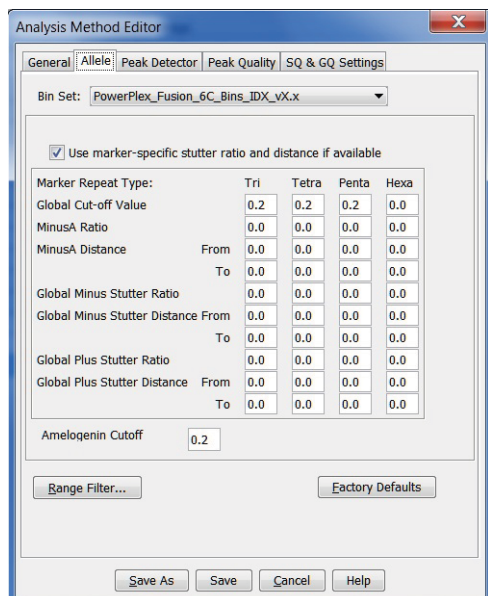

Figure 21. The GeneMapper® ID-X 'Allele' tab with settings for using a 20% peak filter.
6. Select the 'Allele' tab (Figure 21).
8. Ensure that the "Use marker-specific stutter ratio and distance if available" box is checked. Doing this will assign locus-specific stutter files and distances from the imported stutter file. Ensure that the appropriate global filter is applied to this analysis method. For example, for a 20% filter, enter "0.20" for the Global Cut-off Value for Tri, Tetra and Penta repeats (Figure 21).